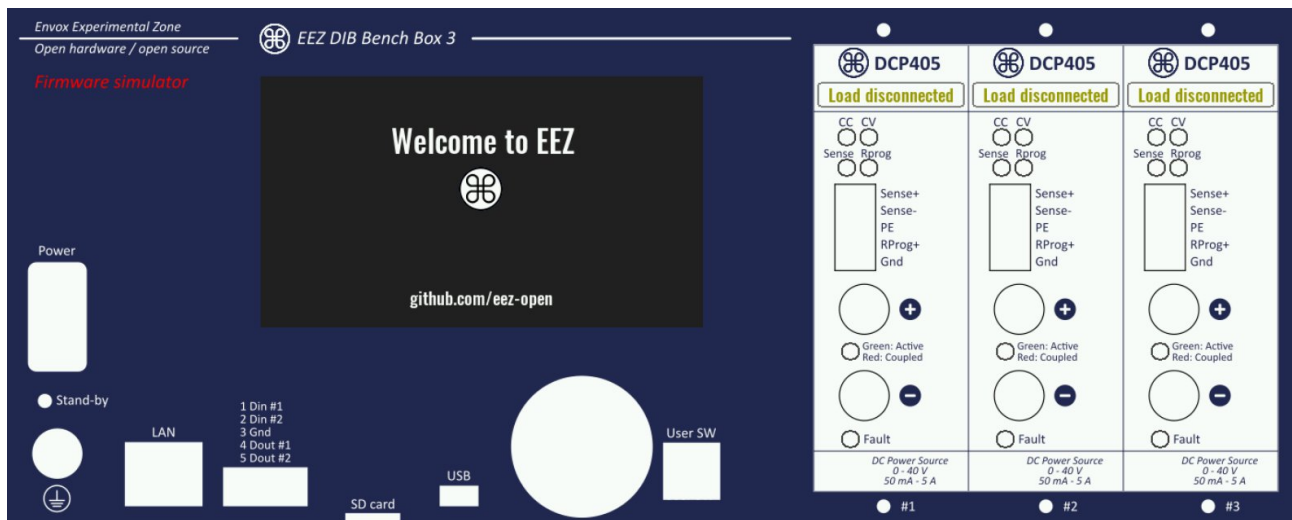

Fig. 5: Firmware simulator GUI
**Description** This command starts the GUI simulation in a new window (see Fig. 5).